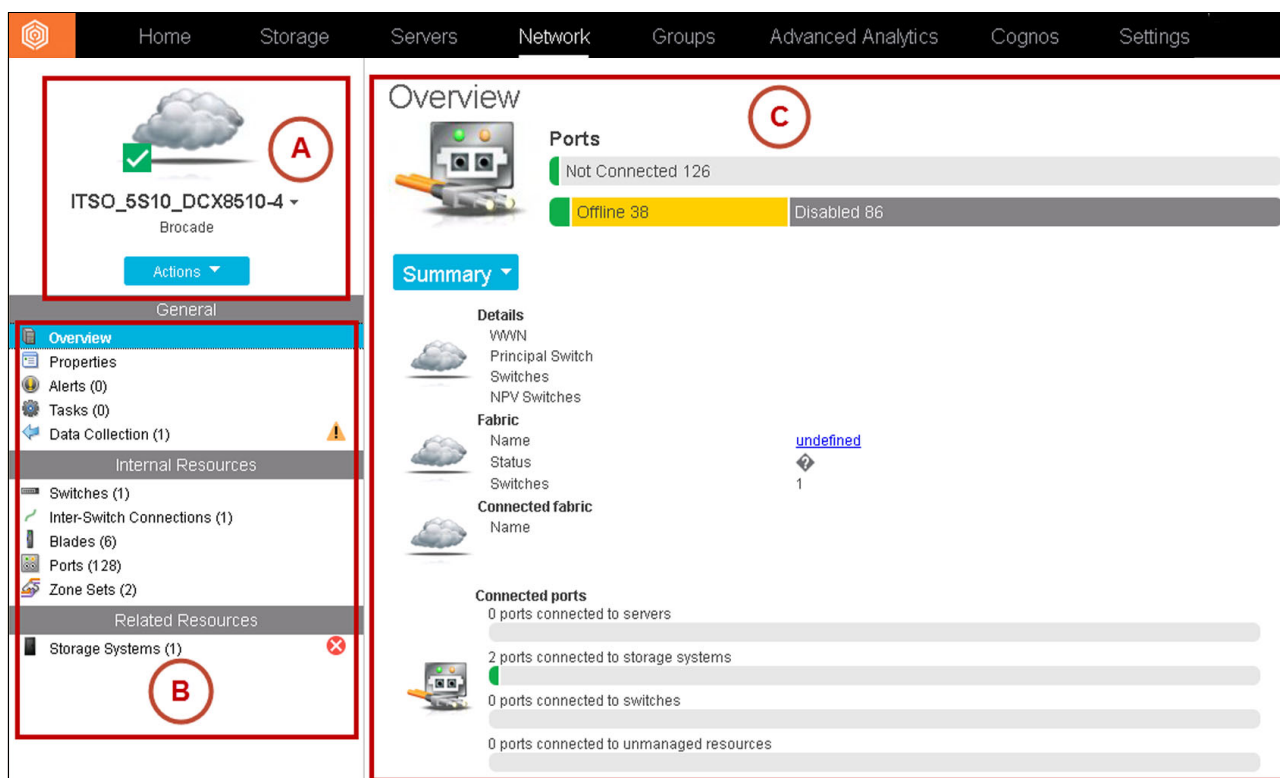

Figure 6-26 Fabric details main view
3. The fabric details main view will appear, as shown in Figure 6-26.